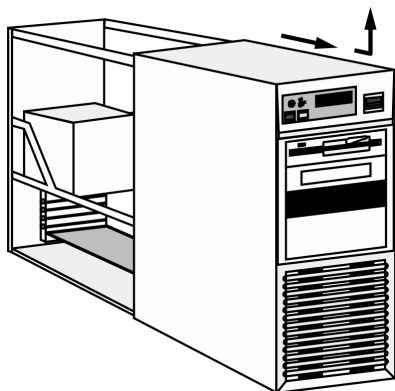

Figure 3: Removing a typical computer's cover
2. Remove your computer's cover, following the directions provided by your computer's manufacturer. Typically, this involves loosening or removing several screws on the back panel of your computer and sliding off the cover. See Figure 3 for an example.